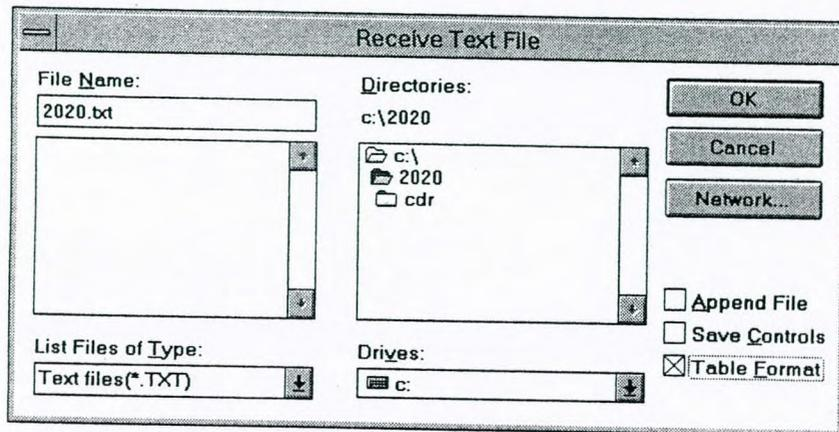

Figure 15 Terminal Program's Transfer Text File Dialog Box
4. Open the Transfers Window and select Receive Text File. A Receive Text File dialog box will open. See Figure 15.